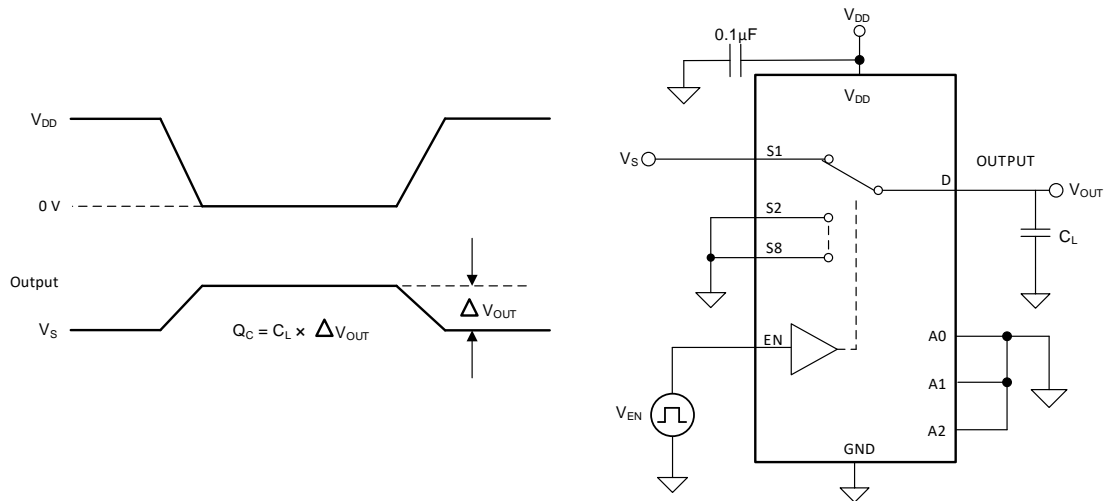

Figure 13. Charge-Injection Measurement Setup
The TMUX1208 and TMUX1209 have a transmission-gate topology. Any mismatch in capacitance between the NMOS and PMOS transistors results in a charge injected into the drain or source during the falling or rising edge of the gate signal. The amount of charge injected into the source or drain of the device is known as charge injection, and is denoted by the symbol  $Q_C$ . Figure 13 shows the setup used to measure charge injection from source (Sx) to drain (D).